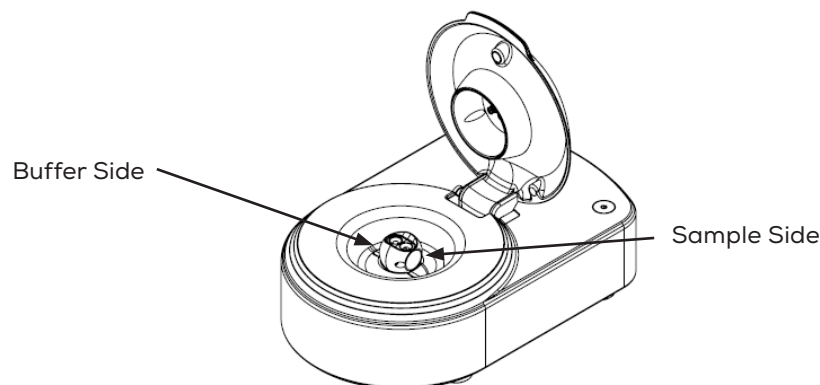

Figure 8. Sample and buffer sides of the fluid cell.
1. Identify the sample side of the fluid cell. The fluid cell will only fit onto the Pulsoid in one orientation. In this orientation the sample side will be on the right as you face the instrument (Figure 8).
- a) Use the PAD to cover the channel on the buffer side of the fluid cell (Figure 8). Press down gently then pull up sharply. Try to achieve a “pop” noise so you know pressure and vacuum forces are being applied to the chamber.